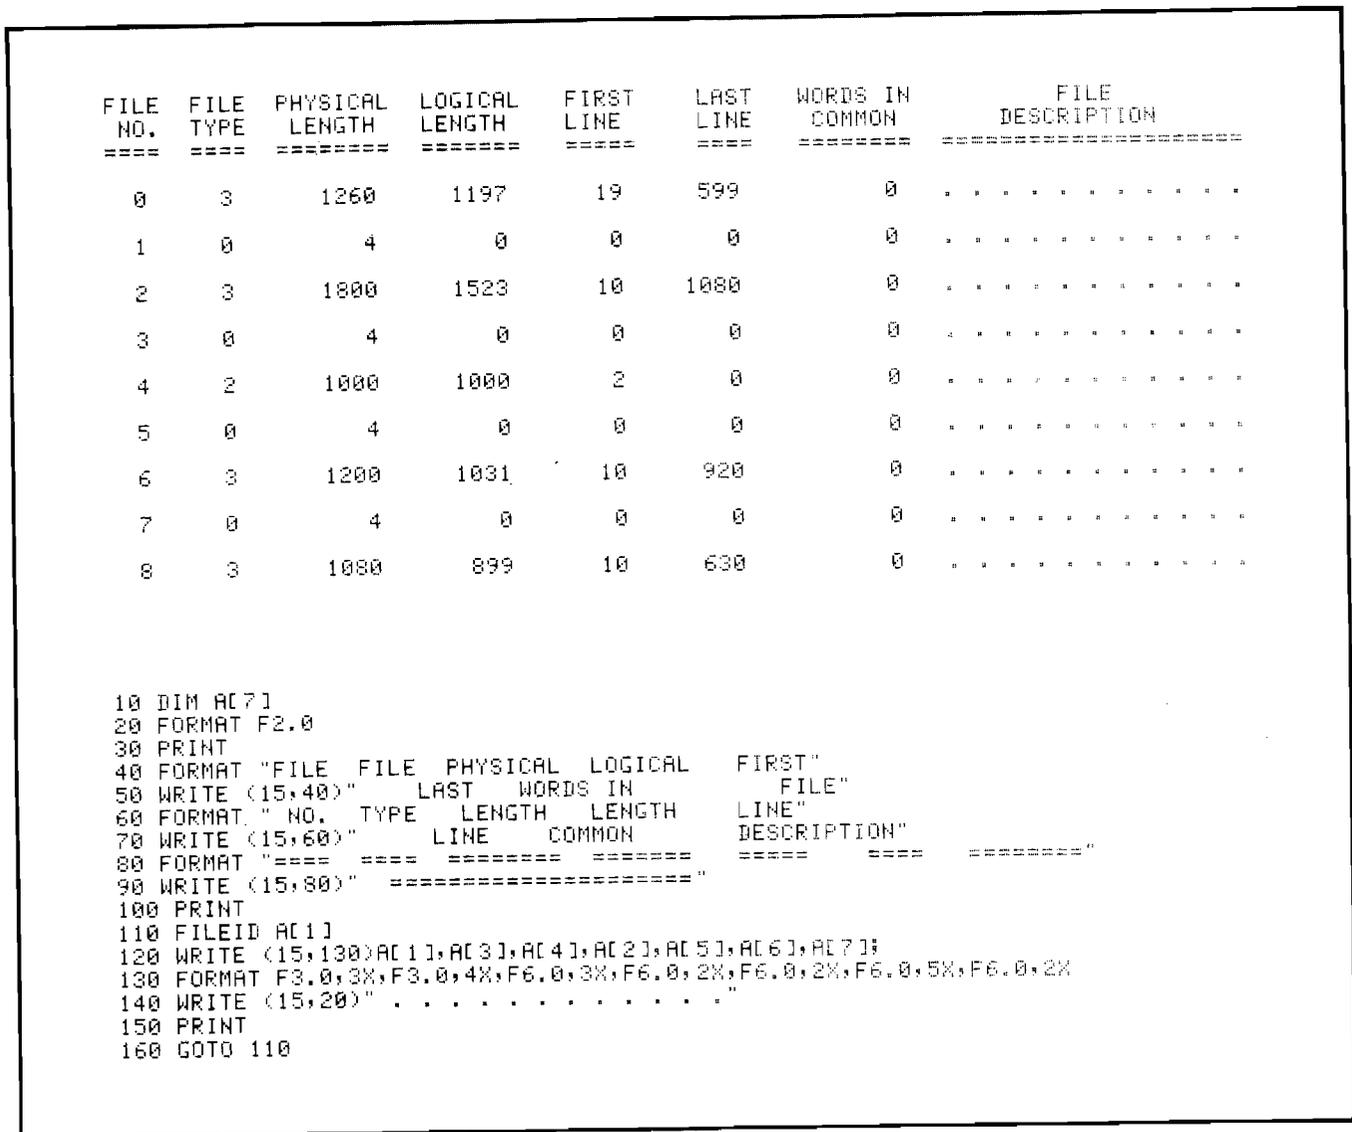

Figure 12. Sample TLIST Utility Program
which allows the tape to be backspaced to the beginning of the preceding file header. FILEID brings all file header information into program. Therefore, all parameters associated with the file header are available for use in arguments. Moreover, as all parameters are in memory, it is simple to write a utility which will produce a TLIST in any format possible. A sample of the TLIST produced by the utility routine supplied on the utility programs disk (item 5, Table 1) is shown in Figure 12.